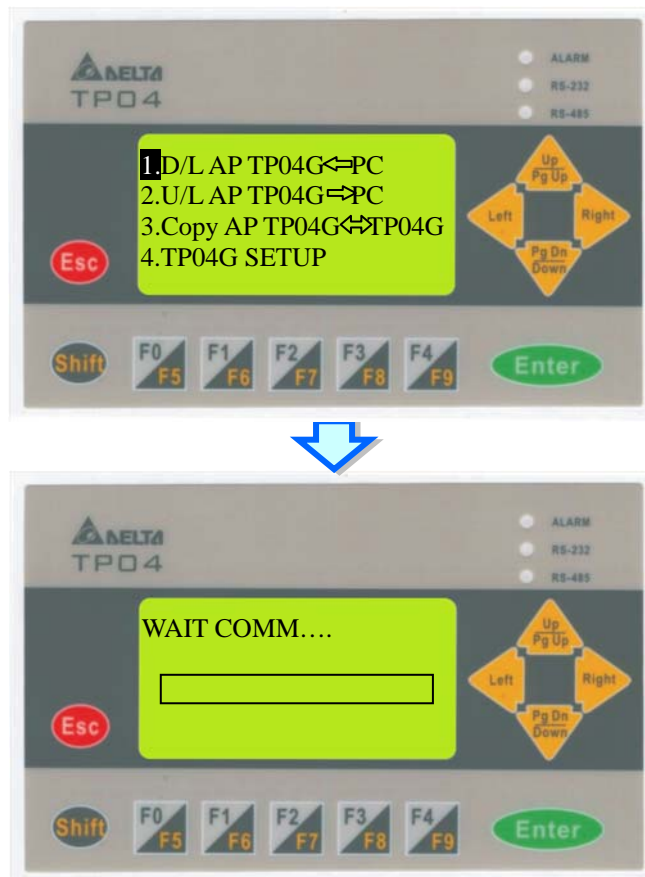

Figure 6-11 Touching 1. D/L AP TP04G ↔ PC
- Step 4: After the users finish editing a boot page, they can download the boot page. After the users press Esc on the TP04G series text panel used for a long time, menus will be displayed on the screen of the TP04G series text panel. After 1. **D/L AP TP04G**  **PC** on the screen of the TP04G series text panel is touched, “WAIT COMM...” will be displayed on the screen of the TP04G series text panel, as shown in Figure 6-11.